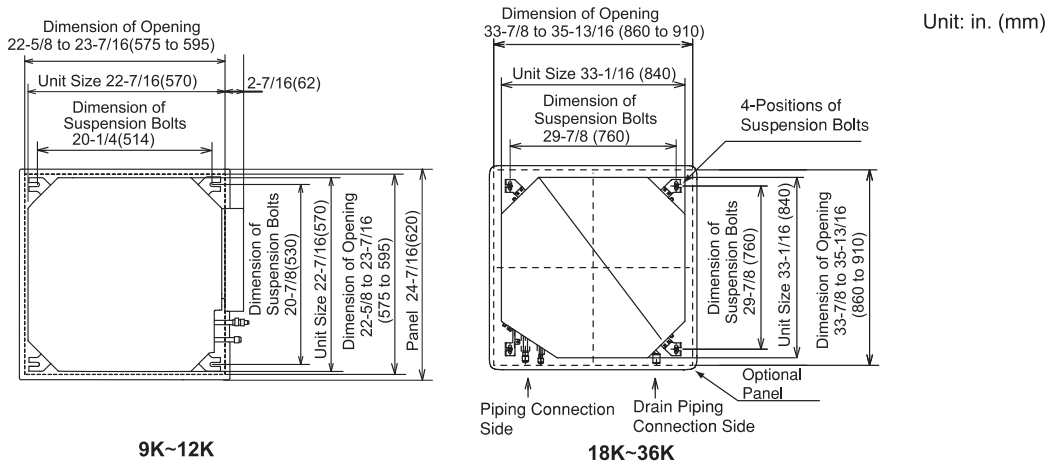

Fig.3.3 Opening of False Ceiling and Suspension Bolts
- (2) Cut out the area for the indoor unit in the false ceiling and install suspension bolts, as shown in Fig. 3.3.